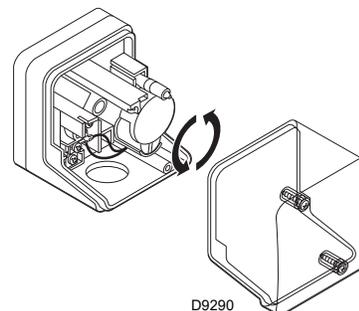

Fig. 33
- Adjust the low gas pressure switch to the start of the scale (Fig. 33).
- Adjust the high gas pressure switch to the upper limit of the scale (Fig. 33).
- Adjust the air pressure switch to the zero position of the scale (Fig. 33).
- Fit a U-type manometer (Fig. 33) to the gas pressure test point on the sleeve.
Adjust the minimum gas pressure switch (Fig. 33) after having adjusted the burner, the gas valves and the gas train stabiliser. With the burner operating at maximum output: